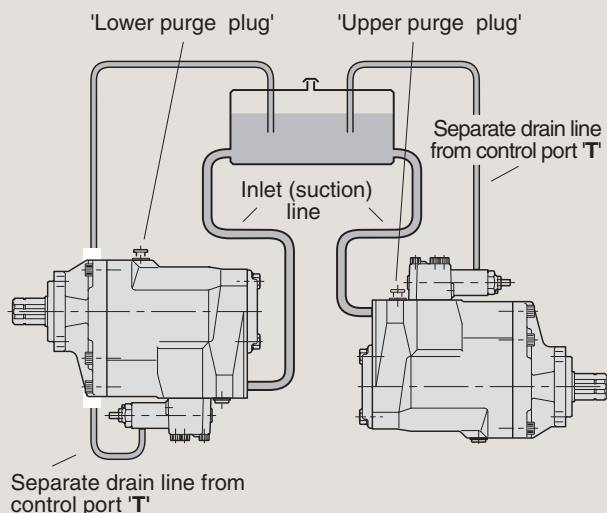

Fig. 6. Purging the VP1.
5. The pump should be installed below the lowest oil level in the reservoir (fig. 6, pg. 6);
6. A separate drain line must be installed between the control drain port T and the reservoir (refer to fig. 6, pg. 6); connect the drain line directly to the oil cooler (if the hydraulic system is so equipped).
- The pump must be filled with fluid and then purged before start-up (fig. 6).
- As previously pointed out, a separate drain line is required between control port T and the reservoir (fig. 6).